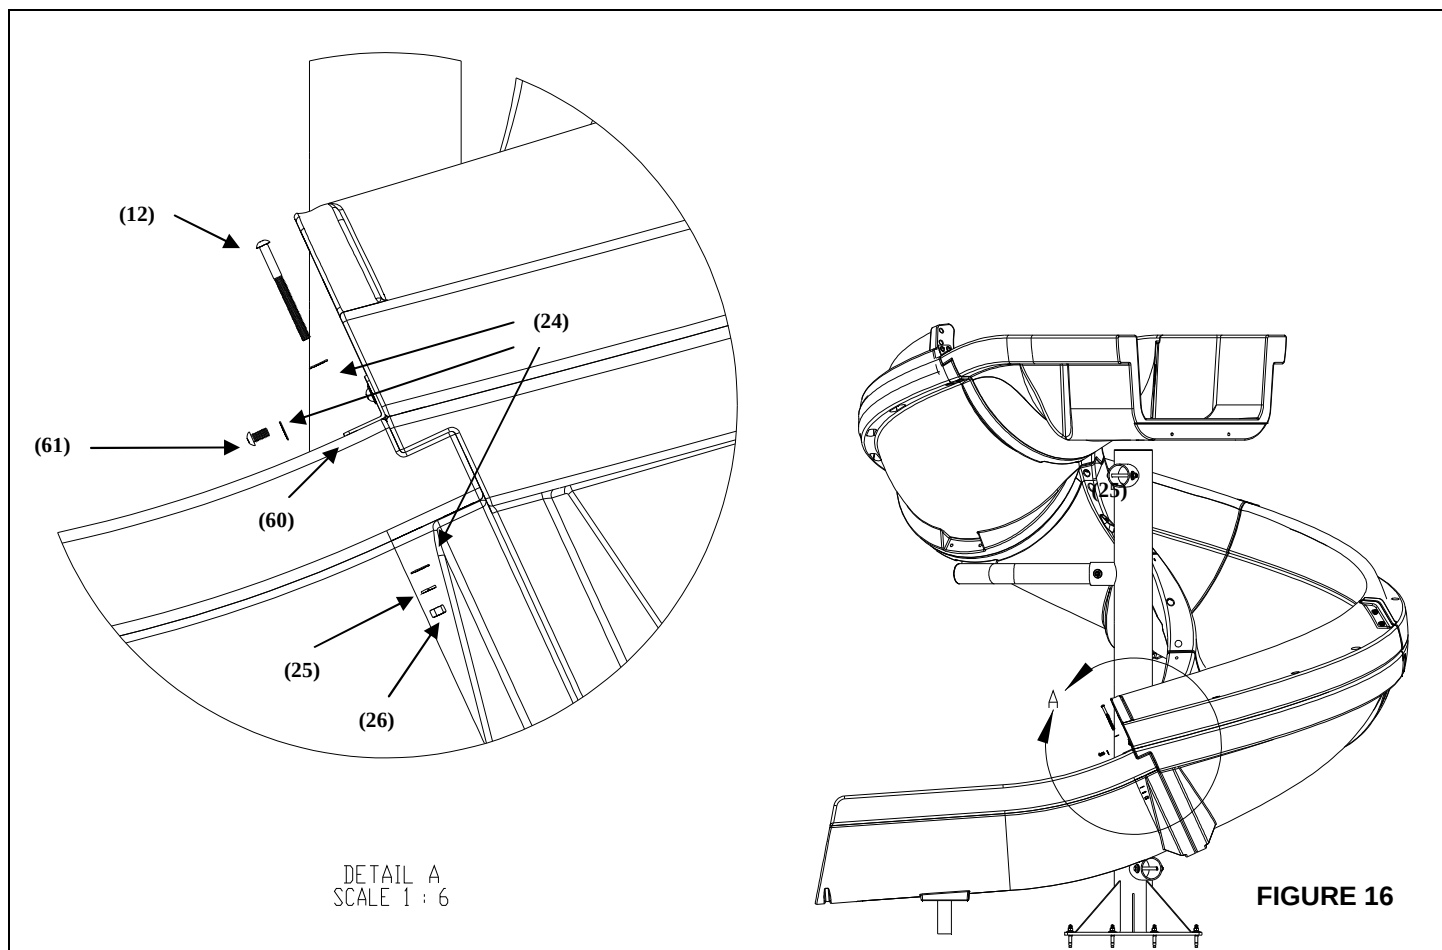

**FIGURE 15**
9) Assemble the four Curve Section Riser (59) pieces. Fasten the two sections together using the two bolt locations through the side of the parts as shown in Figure 15, Detail A. The hardware required for the two side locations is as follows: 3/8"-16 x 4.5" Button Head Cap Screw S/S (11), 3/8" Flat Washer S/S (24), 3/8" Flat Washer S/S (24), 3/8" Lock Washer S/S (25), 3/8" Hex Nut S/S (26).
1) Move the Main Stair Support into place as shown in Figure 18. Align the holes in the support angle bracket with the holes in the entrance section. To ensure proper alignment of the assembly, temporarily place bolts through the mounting holes in the stair support angle bracket and the entrance section. It is also recommended that the bar clamps be used at this point to ensure that the support remains in place. Next, be sure that the mounting plate is flat against the concrete deck. Mark the hole locations for the concrete anchors in the base of the support. Remove the support and drill the 1/2" diameter X 2.25" deep holes for the concrete anchors. Follow the instructions on page 30 for inserting the concrete anchors into the deck. Place the support over the concrete anchors and against the entrance section of the slide. Attach the following hardware to the concrete anchors, but do not fully tighten: 1/2" Nylon Washer (22), 1/2" Flat Washer (17), 1/2" Lock Washer (18), and a 1/2"-13 Hex Nut (20). Next, place the required hardware into the holes on the front face of the stair support angle bracket, See Figure 15, Detail A. The required hardware is as follows: 3/8" x 3.5" Button Head Cap Screw (10), 3/8" Flat Washer (24), 3/8" Nylon Washer (23), 3/8" Flat Washer (24), 3/8" Lock Washer (25), 3/8" Hex Nut (26). This should be done for both sides of the support. After this connection is completed, finish tightening down the hardware at the base of the support.